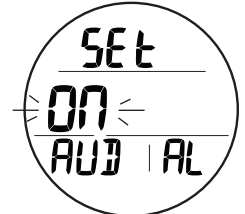

Fig. 50 - SET AUD AL
**Set Audible Alarm**, information includes (Fig. 50):